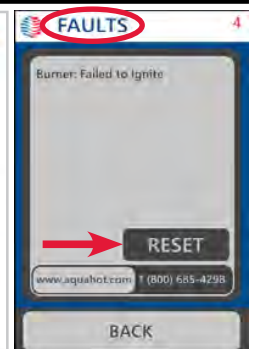

Figure 100
**NOTE:** Once the fuel lines are primed, the fault should clear, but the fault may need to be reset in the process. Just press the RESET button (Figure 100) to clear all the faults.